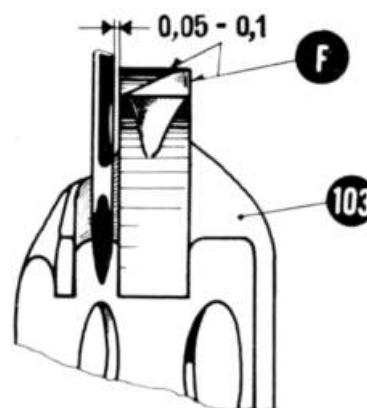
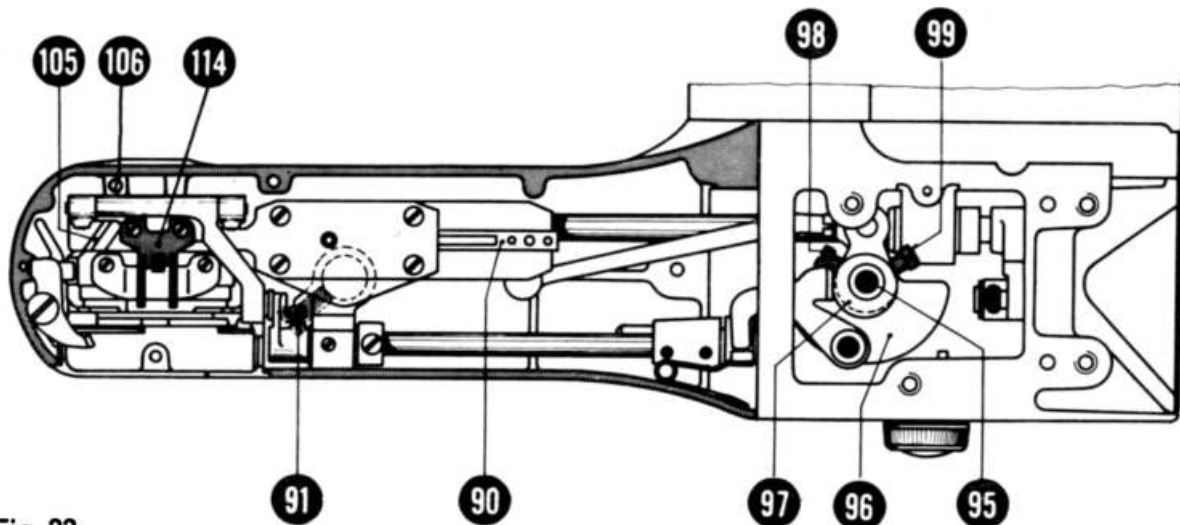

Fig. 32
Fig. 33
Next, check the lateral adjustment of the needle in relation to the shuttle (103). The distance should be 0,05–0,1 mm (Fig. 32). The lateral adjustment is carried out by shifting the shuttle race (105) Fig. 33 and 34.
Unscrew the screw (106) fitted to the rear base wall (accessible from the top left-hand side), and move the whole shuttle race forward or back, according to whether the needle distance is too large or too small. After adjustment re-tighten screw (106) Fig. 33.